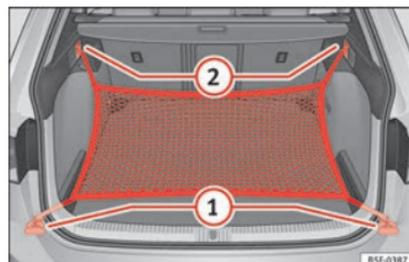

Fig. 179 In the luggage compartment: rings ① and hooks ② for securing the net bag (LEON ST model).
- Secure the short net hooks to the fastening rings »» Fig. 179 ① »» ⚠. The bag zip should be facing upwards.
- Secure the straps in the bag hooks ②.